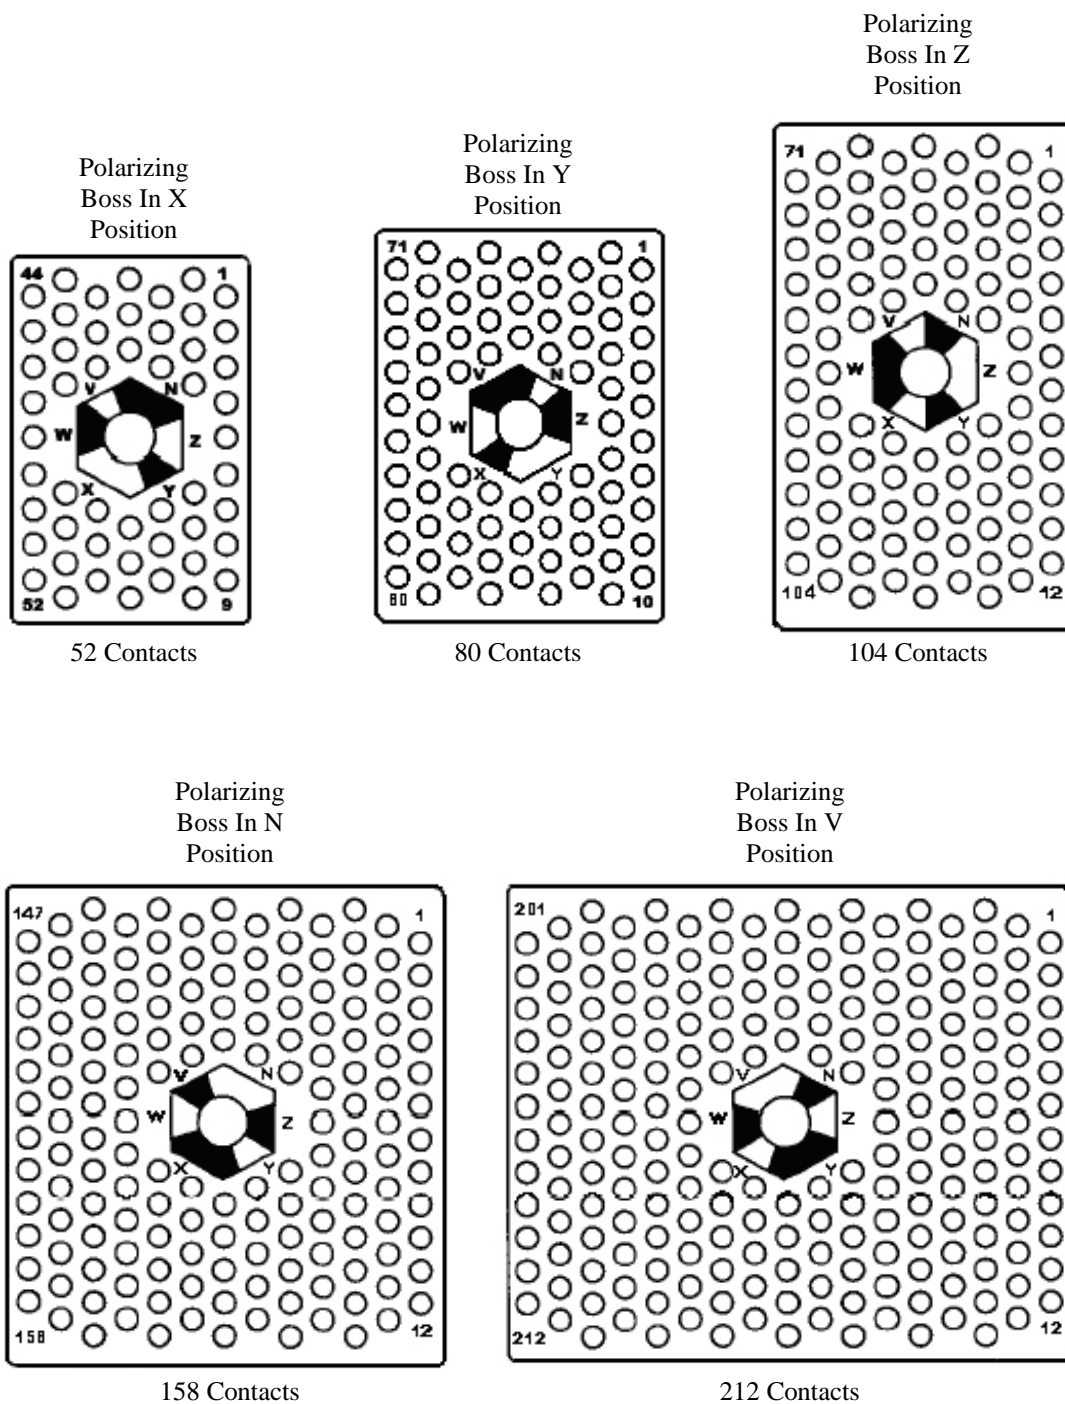

Figure 7. MIL-C-85028 Insert Configurations
24. **INSERT CONFIGURATION**. The insert configuration is the manner in which the contacts are placed within the connector insert (Figure 7).